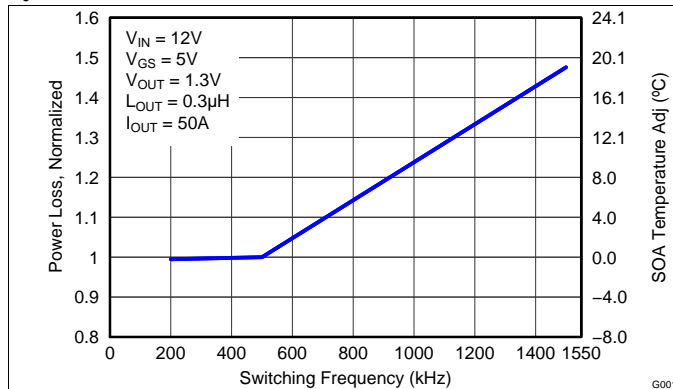

Figure 7. Normalized Power Loss vs Switching Frequency
- Normalized power loss for switching frequency  $\approx 1.15$  (Figure 7)